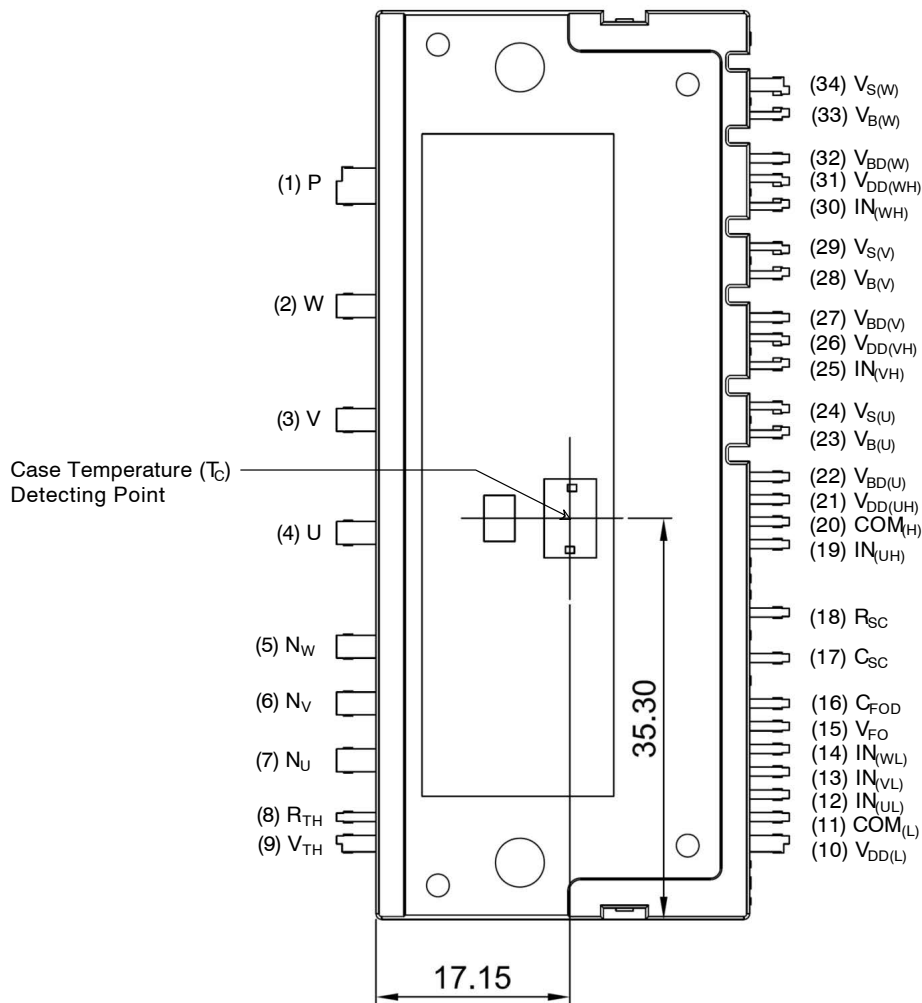

Figure 1. Top View
- 1200 V–35 A IGBT inverter for three-phase DC/AC power conversion (Refer to Figure 1)
- For the measurement point of case temperature (T_C), please refer to Figure 1. DBC discoloration and Picker Circle Printing allowed, please refer to application note AN-9190 (Impact of DBC Oxidation on SPM® Module Performance).